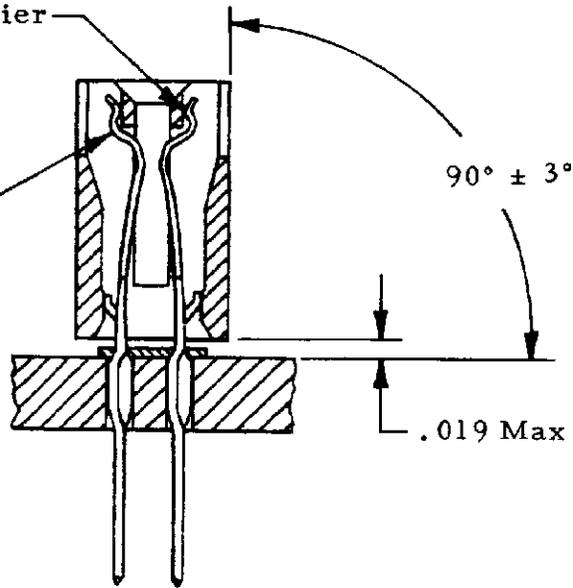
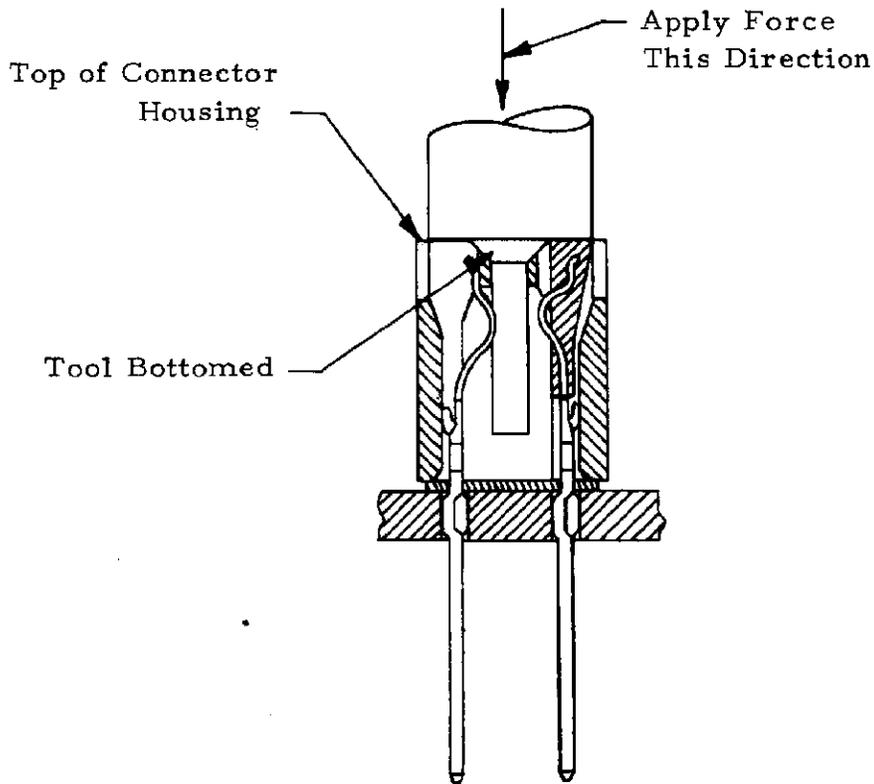

Figure 6
Figure 11
- J. Connector shall meet the requirements of Figure 6 after insertion.
- (4) Apply force to end of insertion tool until tool bottoms on top of connector housing as indicated in Figure 11. Swivel handle of tool may be positioned to facilitate force application.
- (5) Remove insertion tool from connector housing.
- (6) Replacement contacts shall meet the requirements specified in Figure 6.